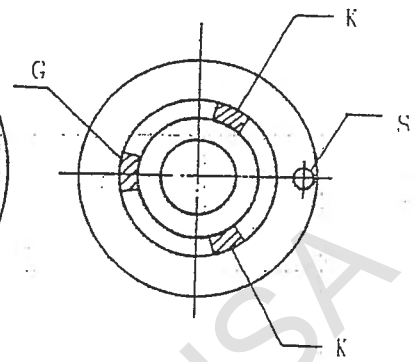

Fig. 6
- * Turn the wheel through 90° at a time and see if it is balance. If not, the Correction weight "K" must be moved until the wheel is in balance in any Position (Fig. 6)